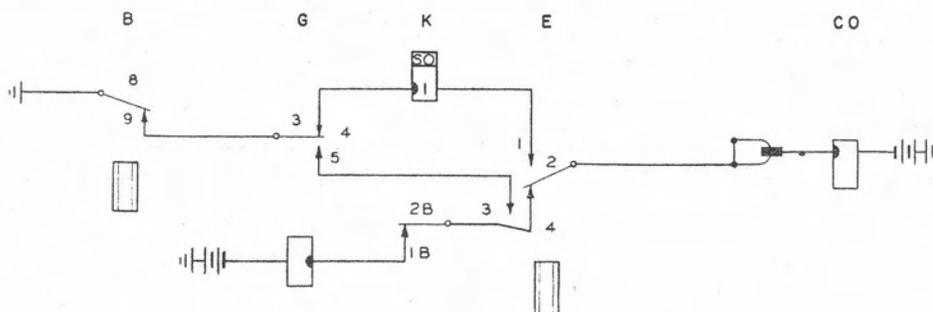

Figure 9. The connector finds the called line is idle. Relay E is about to release.
**13.2 Called line idle (figure 9).** If the called line is idle, wiper C encounters battery from the called party's cut-off relay. Relay G does not operate. After a moment, relay E releases, and closes a circuit from battery thru relay CO, wiper C, relay E contacts 2-1, relay K winding #1, relay G contacts 3-4 to relay B contacts 9-8 and ground.